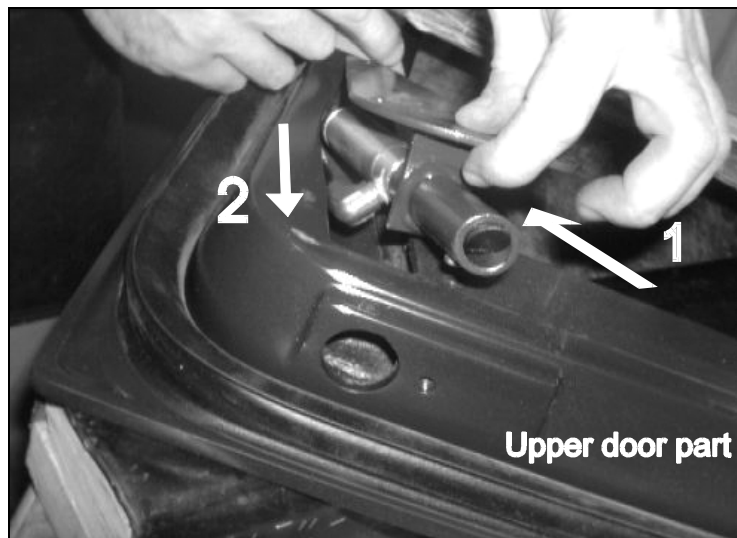

FIGURE 3: NEW UPPER LATCH INSTALLATION
4. Insert new latch bottom end first, rotate and rise in position as shown on figure 3.